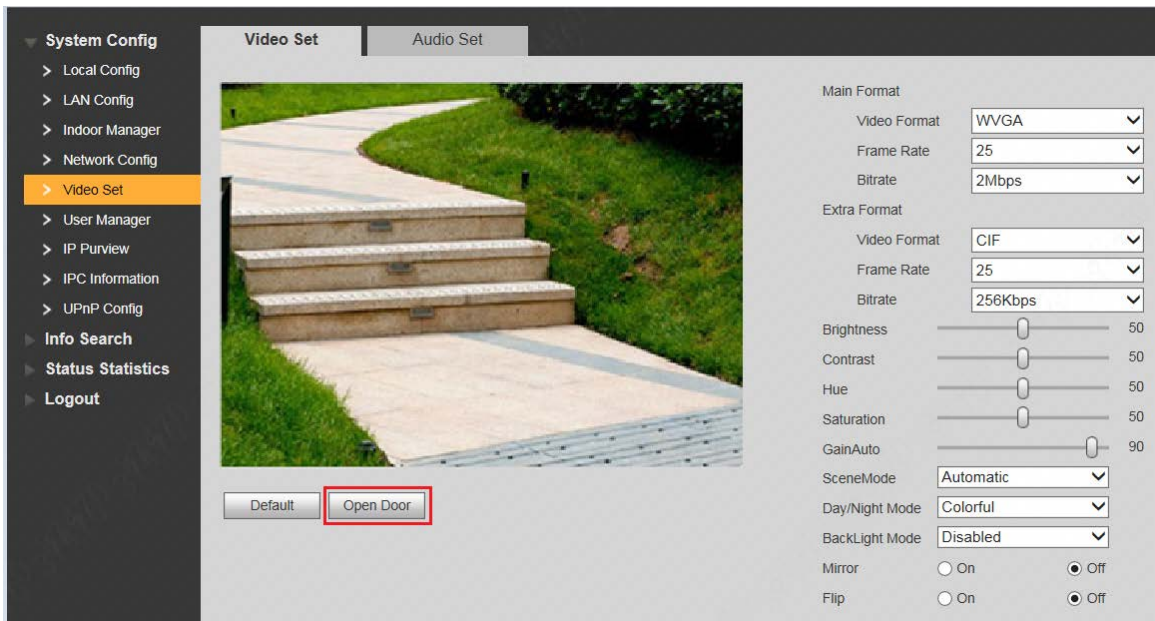

Figure 6-8
Step 2 Click "Open Door", and VTO is unlocked, as shown in Figure 6-8.